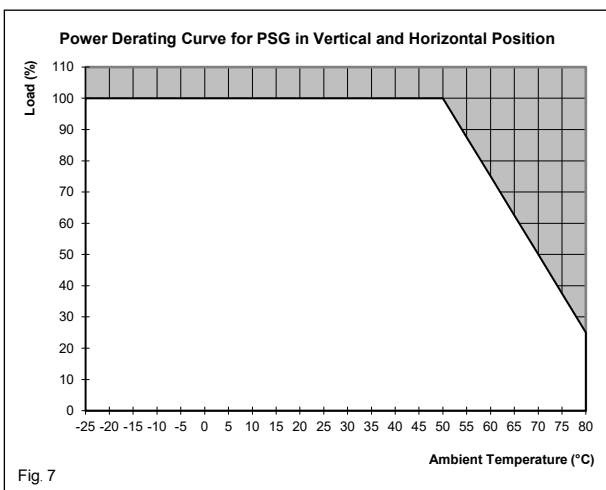

Fig. 7
5.4. Thermal behavior (Fig. 7).
Operating temperature (surrounding air temperature)	-25°C to +80°C (Refer to Fig. 7)